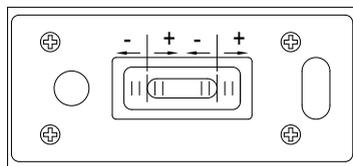

Fig.1
2. Slide (not put) the level on the surface of object. The negative range is on the left of both index lines, the positive range is on the right (Fig.1).